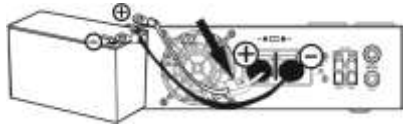

Fig. 2
Step 4- Install a DC Breaker in a positive battery line. The rating of the DC Breaker must be according to the inverter's battery current (75 Amp). Keep the DC breaker off. (see Fig. 2)
1) Single battery connection(Refer to Fig. 2): When using a single battery, its voltage must be equal to the Nominal DC Voltage of the unit (see below Table 1).